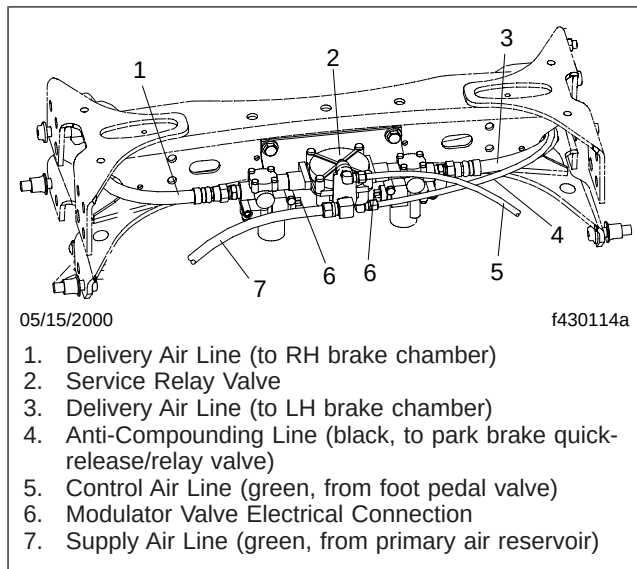

Fig. 1, Modulator Valve Assembly
3. Mark the electrical connectors for ease of installation. Disconnect the wiring from the applicable modulator valve assembly. The assembly includes two modulator valves and a service relay valve. See Fig. 1.